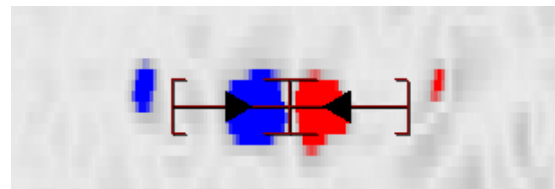

Figure 61. Length arrows on the Lg C-scan
- ii) The start and/or end of a crack. The start/stop position might not be correct for intermittent cracking but also cracking occurring at the edge of the scan. The gray arrows on the C-scans will move as these parameters are adjusted (Figure 61).